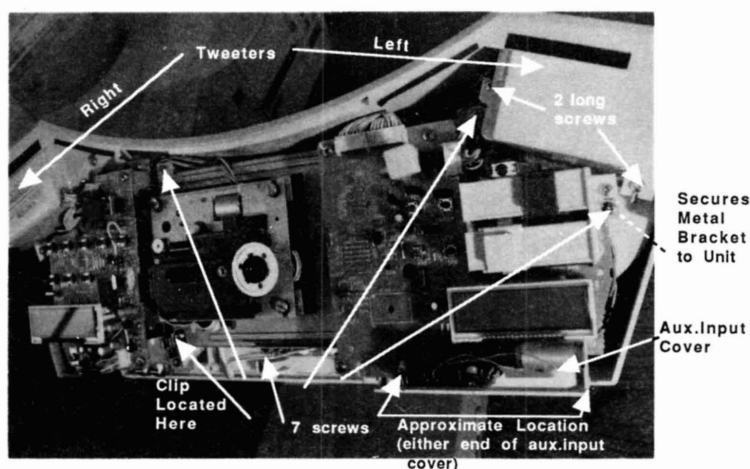

Figure 10
NOTE: There is no need to remove the screw which secures the slide control housing to the metal bracket (not illustrated). However, the screw which secures the metal bracket to the unit must be removed (see Figure 10).
III. Re-install the screw which secures the metal bracket to the unit. (see Figure 10).
27. CD Main PCB Removal (Figures 10 and 11)
A. Remove 7 screws which attach PCB to unit. One screw has a metal clip attached to it. See Figure 10 for location.
B. Remove the auxiliary input cover by sliding out and away from the jacks (Figure 10).
28. CD Main PCB Replacement (Figures 10 and 11)
E. Re-install 7 screws which attach PCB and metal chassis to unit (Figure 10).
35. Right Tweeter Removal (Figures 10, 14 and 15)
A. Remove 2 long screws that hold the tweeter enclosure in place (Figure 10).
36. Right Tweeter Replacement (Figures 10, 14 and 15)
E. Align the screw holes of the unit and chassis and secure the tweeter enclosure with 2 long screws (Figure 10).
37. Left Tweeter Removal (Figures 10 and 15)
A. To access the left tweeter, remove the 7 screws which attach the CD Main PCB module to the unit (Figure 10).
B. Remove 2 long screws which attach the tweeter enclosure to the unit (Figure 10).
38. Left Tweeter Replacement (Figures 10 and 15)